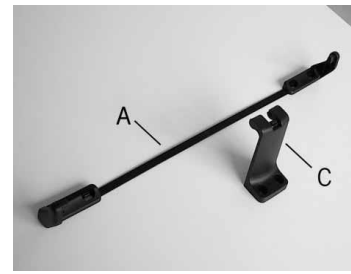

Figure 8
- B. Select the correct form of brackets (Fig. 8).